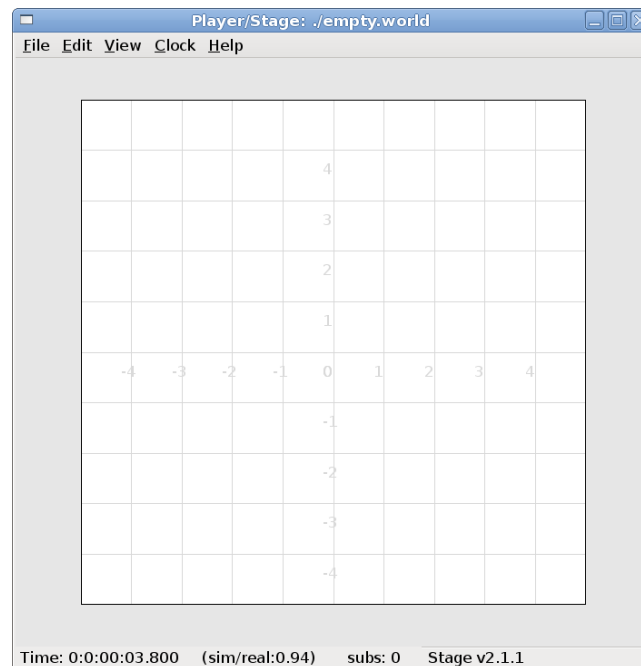

Figure 3.3: An empty map with gui_grid enabled. With gui_grid disabled this would just be an empty white square.
- **gui_grid**: this will superimpose a grid over the model. Figure 3.3 shows a map with a grid.